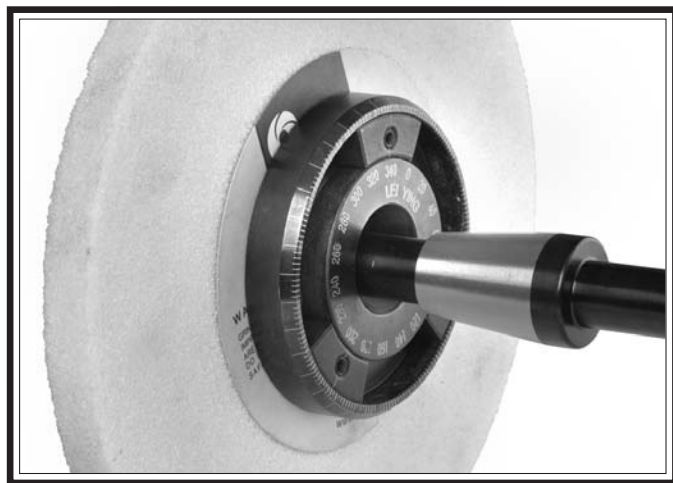

Figure 35. Installing the balancing arbor.
5. Using a slightly-oiled lint free cloth, wipe the mating surfaces of the balancing arbor and the internal hub taper perfectly clean, and push the hub and arbor together, as shown in **Figure 35**.